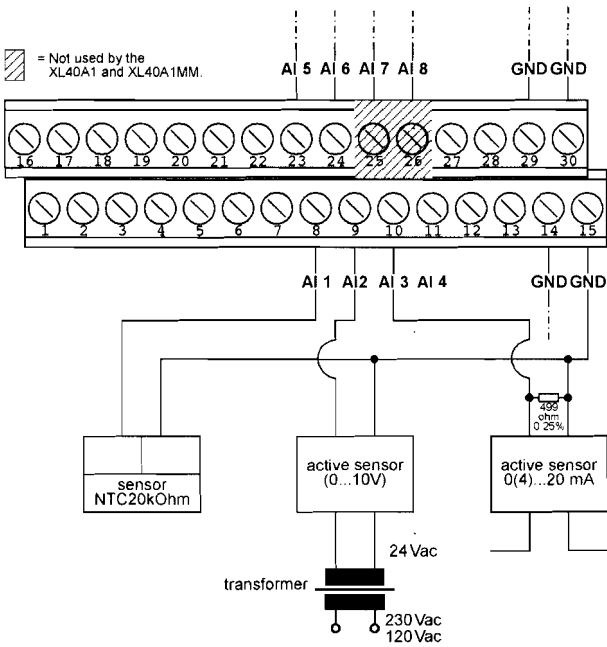

Fig. 20. AI's, sensor connections (example)
0 (4) to 20 mA (with an external resistor of 499 $\Omega \pm 0.25\%$ [see Fig. 20])